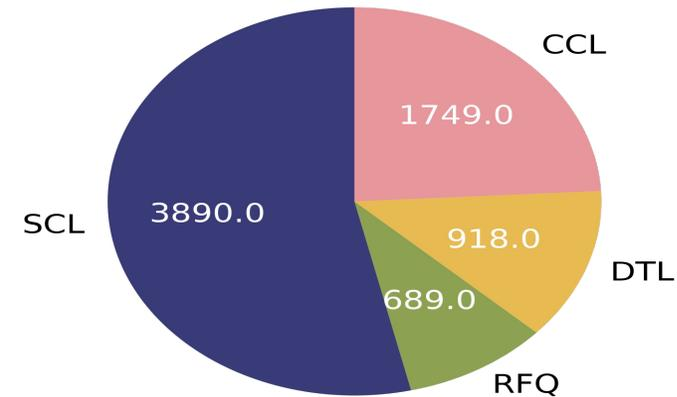
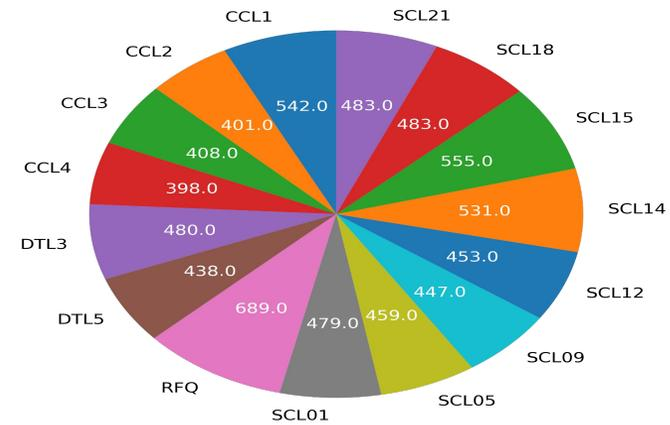

Figure 2. Number of normal samples for the 4 main modules
Figure 3. Number of normal samples for each sub module
- We have four main modules: **SCL**, **CCL**, **DTL**, and **RFQ** with a total of 7246 waveforms distributed as in Fig. 2 and each module has sub-modules as in Fig 3.